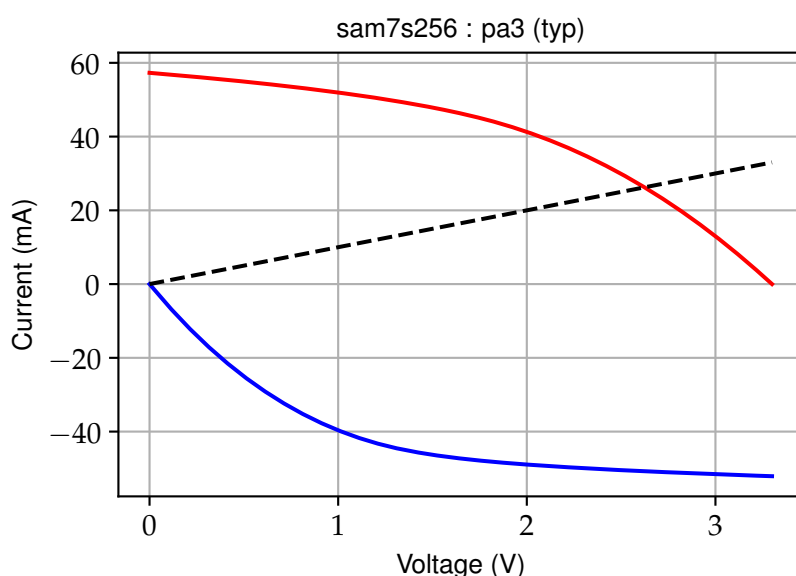

Figure 8.16: SAM7S PIO IV curve with load line (dashed).
14. Consider the IV curve in Figure 8.16 with a superimposed load line. Determine the loading, the maximum voltage swing, and the steady state current when the output is high.